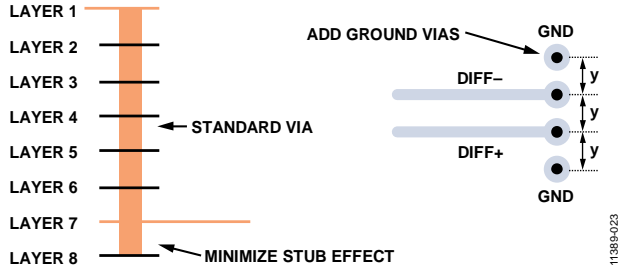

Figure 85. Minimizing Stub Effect and Adding Ground Vias for Differential Stripline Traces
- If using standard vias, use the maximum via length to minimize the stub size. For example, on an 8-layer board, use Layer 7 for the stripline pair (see Figure 85).
- For each via pair, place a pair of ground vias adjacent to them to minimize the impedance discontinuity (see Figure 85).